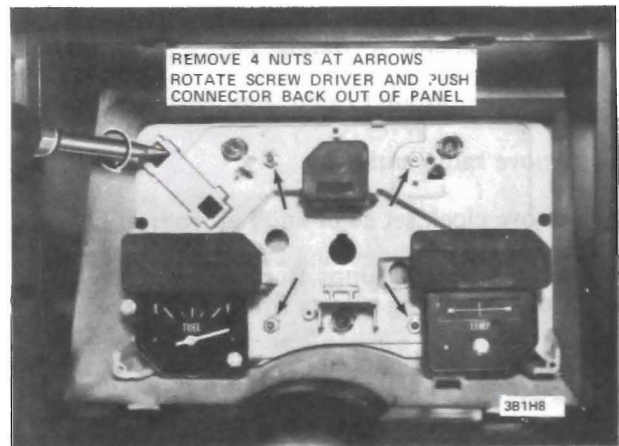

Figure 1H-8 Removing Fuel or Temperature Gauge
5. Remove three screws and fuel gauge and or remove one screw and temperature gauge. See Figure 1H-8.